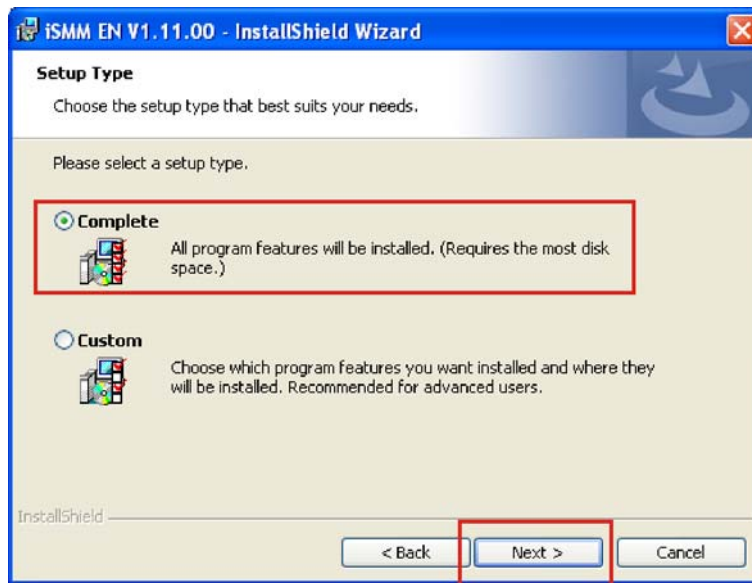

Figure 7-34: iSMM Setup Type
Step 15: The **Setup Type** screen appears. (Figure 7-34)
Step 16: Select “**Complete**” (Figure 7-34)
Step 17: Click **NEXT** to continue. (Figure 7-34)